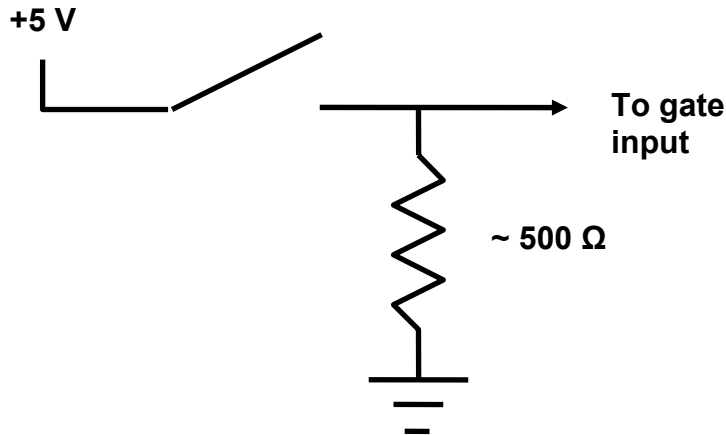

Figure 2: Pushbutton switch for logical input. Gate input is high (1) when button is pushed.
Pre-lab preparation: For this part of the lab we will use logic gates that are packaged into integrated circuit (IC) chips. The chips are little black rectangular plastic devices with metal connecting pins attached. Each chip has 4 logic gates already packaged into it. Figure 2, below, shows the pinout for the 7432 TTL integrated circuit, a Quad 2-input OR gate. Note that there are four gates on each chip; each gate has 2 inputs and one output pin, so the four gates required 12 pins (4 gates x 3 pins/gate). In addition the chip requires +5 and ground power supply connections, so there are 14 pins in all. **Q2:** To be sure you understand how the chip works, draw a circuit diagram containing an OR gate (just use the logic symbol for the OR gate in your diagram), switches on the inputs, and an LED with a current limiting resistor on the output. The trick here is to figure out how to connect the switches and LED. Remember, the TTL gate has internal pull-ups on the inputs. Please contact us if you have questions.
logic LOW at the inputs you need to connect them to ground; if you do not connect anything to an input it is at a logic HIGH. Comment in your notebook how this is different from the RTL logic. Wire your pushbutton switches to allow control of the logic state of the input. Note that the simplest way to connect the switch to ground so that the logic level is LOW when it is pushed. Alternately you can use a resistor to pull down the input, and then connect the switch so that the input level is HIGH when the switch is pushed as in Figure 2 below. This has the advantage that pushing the switch corresponds to a 1 or "True" condition, which is a little easier to conceptualize.
4. Build a TTL circuit to implement the door-open warning system. Now implement your door-open warning system with TTL logic. Use OR and NAND gates on the IC's to implement the logic and use the transistor-relay-household lamp in place of the red LED. Use pushbutton switches to simulate the switches that are controlled by the open/closed positions of the doors and the presence/absence of the driver on the seat. You can use the switch connections in Figure 2 above or you can connect the switch to ground and release the switch for a HIGH input - or you can define the circuit with a LOW input when the seat is occupied or the door is opened. Any of these ways are correct - just make sure that you define and write down in your lab book what your voltage is at the inputs should be for the seat occupied/unoccupied and door open/shut condition. The lamp should light only when the driver is sitting on the driver's seat AND either of the two front doors is open; otherwise the green LED should be on. Comment in your lab notebook whether it works as expected and on any problems you encounter.